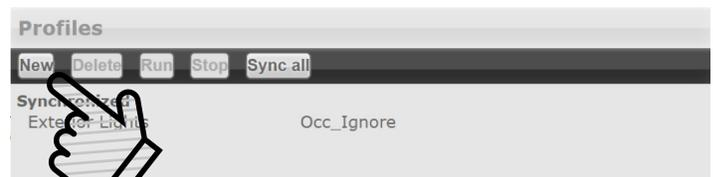

Figure 64: New Profiles
1. Click **New** under the **Profiles** panel (Figure 64) to start creating a new profile, or click the name of a profile in the list to edit an existing profile.